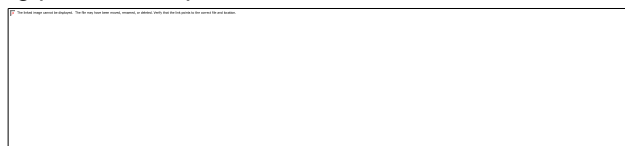

Figure 4-8
2. Enter the world coordinates in the command line and press <Enter>. See Figure 4-8. The line now has a starting point on the plan at those coordinates.